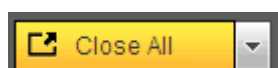

Figure 5-5
- Section 2: There are channel number and one button: Start all. Start all button is to enable/disable all-channel real-time monitor. Click it the button becomes yellow. See Figure 5-5.